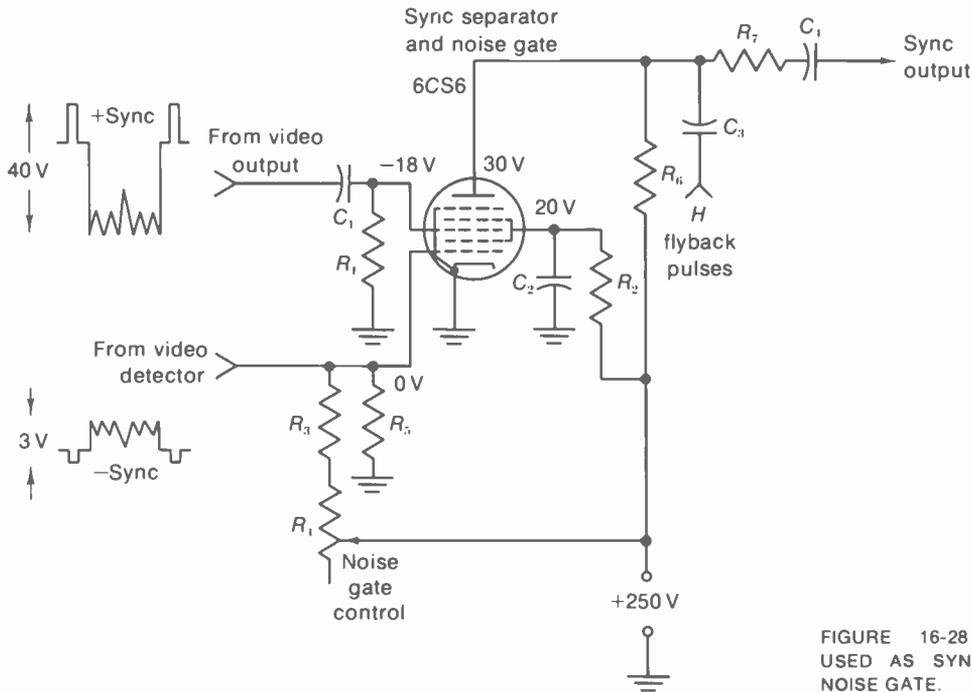
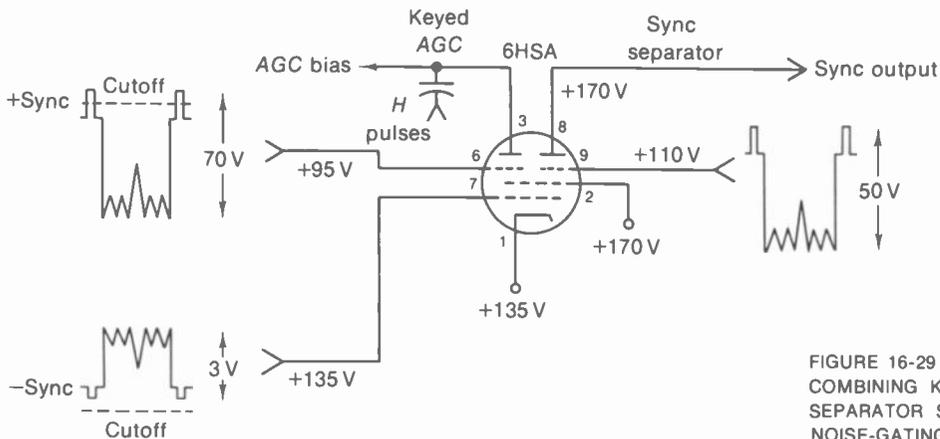

FIGURE 16-28 PENTAGRID TUBE USED AS SYNC SEPARATOR AND NOISE GATE.
FIGURE 16-29 TWIN-PENTODE TUBE COMBINING KEYED AGC AND SYNC SEPARATOR STAGES. BOTH HAVE NOISE-GATING SIGNAL AT GRID PIN 7.
**Pentagrid sync separator and noise gate.** The circuit in Fig. 16-28 uses a tube having two control grids with sharp cutoff. The first grid next to the cathode is one control grid and the other is grid 3. Grids 2 and 4 are connected internally to serve as a screen grid, and grid 5 is the suppressor. Cutoff for each control grid is approximately  $-2$  V. It is important to note that either control grid can cut off plate current. We can consider this a gated circuit, therefore. Both control-grid gates must be on to produce output in the plate circuit.
**Sync separator and gated AGC.** The noise-gating function can also be helpful in reducing the effects of noise in the automatic gain control circuit of the receiver. Therefore, special tubes are manufactured to combine the keyed AGC stage and sync separator stage with a noise-gate circuit common to both. These tubes are twin sharp-cutoff pentodes, as shown in Fig. 16-29. The cathode is common to both sections; grid 1 serves as a noise gate for both the sync separator and AGC stages; grid 2 is a common screen grid. Grid 3 in each section is an individual control grid, and there are two plates for separated sync output from one pentode unit and AGC voltage from the other. The sync separator circuit is the same as in Fig. 16-28, and the keyed AGC circuit is the same as explained previously for Fig. 15-9.
Note the dc voltages in Fig. 16-29. Pin 6 is at +95 V because of dc coupling to the video amplifier plate. The cathode is at +135 V to make the grid bias at pin 6 equal to  $95 - 135 = -40$  V, for the AGC grid. Pin 7 is also at +135 V making
7. Another common circuit is the gated sync separator. Either a pentagrid tube can be used, as in Fig. 16-28, or a twin pentode combining the sync separator and AGC stages, as in Fig. 16-29.